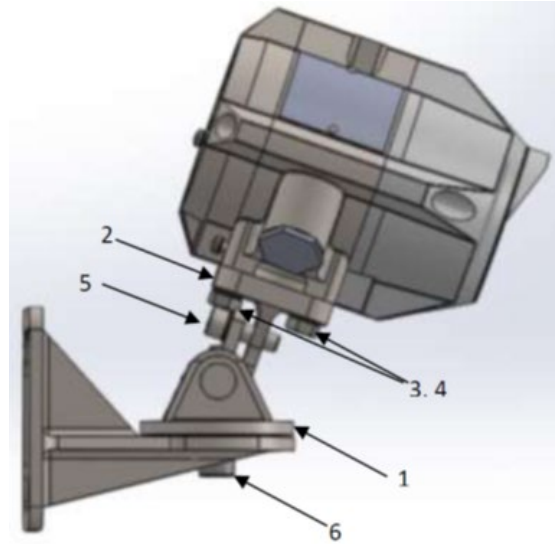

Figure 13 : Detector on Tilt mount – Side view
Use the following steps to connect the detector to the tilt mount, referring to Figure 13:
- a) Place the detector, with its cable/conduit entries pointing down, on the holding plate of the tilt mount (item 2, Figure 13).
- b) Secure the detector to the plate using the two hex screws and spring lock washers (items 3 and 4).
- c) Loosen the locking screws (Items 5 and 6, Figure 13) in such a way that enables you to rotate the detector.